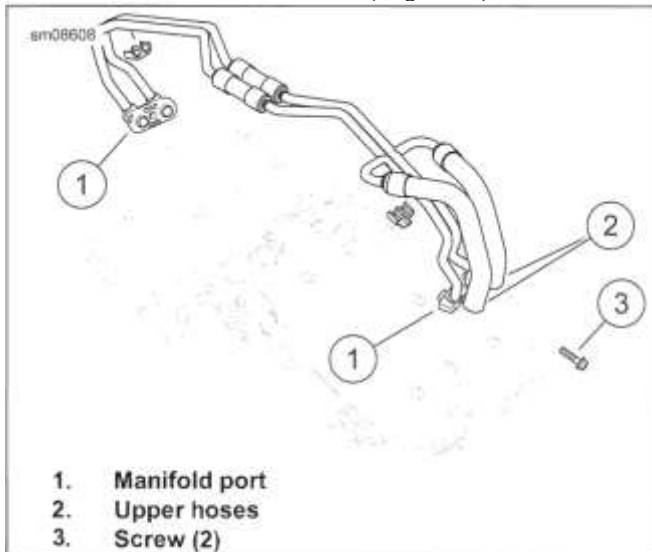

Figure 7-13. Upper Coolant Lines
- Knock sensor connectors. See KNOCK SENSOR (KS) (Page 8-97).
- See Figure 7-13. Remove screw (3) from each cylinder head.
- See Figure 7-13. Install **new** O-rings on each manifold ports (1).
3. Install screw (3) in each cylinder head.